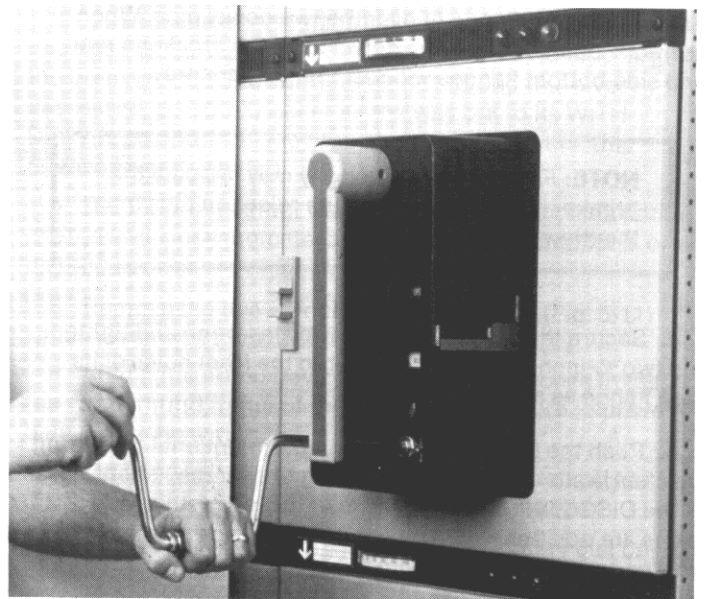

Fig. 5-10. Engage the racking crank with the racking screw (AKR-30/50)
8. Engage the racking handle. With the AKR-30/50 and AKRU-30/50 breakers, the racking handle is engaged by pushing the trip button in the breaker escutcheon, sliding the cover below it to the right, and inserting the handle on the jackshaft. See Fig. 5-10.